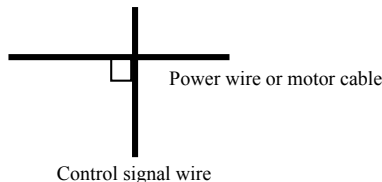

Fig.4-2 System wiring demand
- (1) Inverter terminal motor connection wire (U,V,W terminal output wire) and inverter terminal power connection wire (R,S,T terminal input wire) should keep distance enough as possible as can.
- (2) U,V,W terminal 3 motor wires should be placed in metal tube or metal wiring tank as possible as.
- (3) Generally control signal wire should use shield cable, when shield layer connect to inverter \perp terminal, it should be the single end earth grounding which closed to inverter side.
- (4) Inverter \perp terminal earth grounding cable must directly connect to floor, it cannot connect to earth grounding through other device, and the location of earth grounding should close to inverter as possible as.
- (5) Strong current cable(R,S,T,U,V,W) cannot parallel wiring closely with control signal wire, and bundled together is prohibited. It should keep distance from over 20~60 cm (Relative to strong current size). When it's necessary to intersect, it should be orthogonal crossing, show as Fig.4-2.